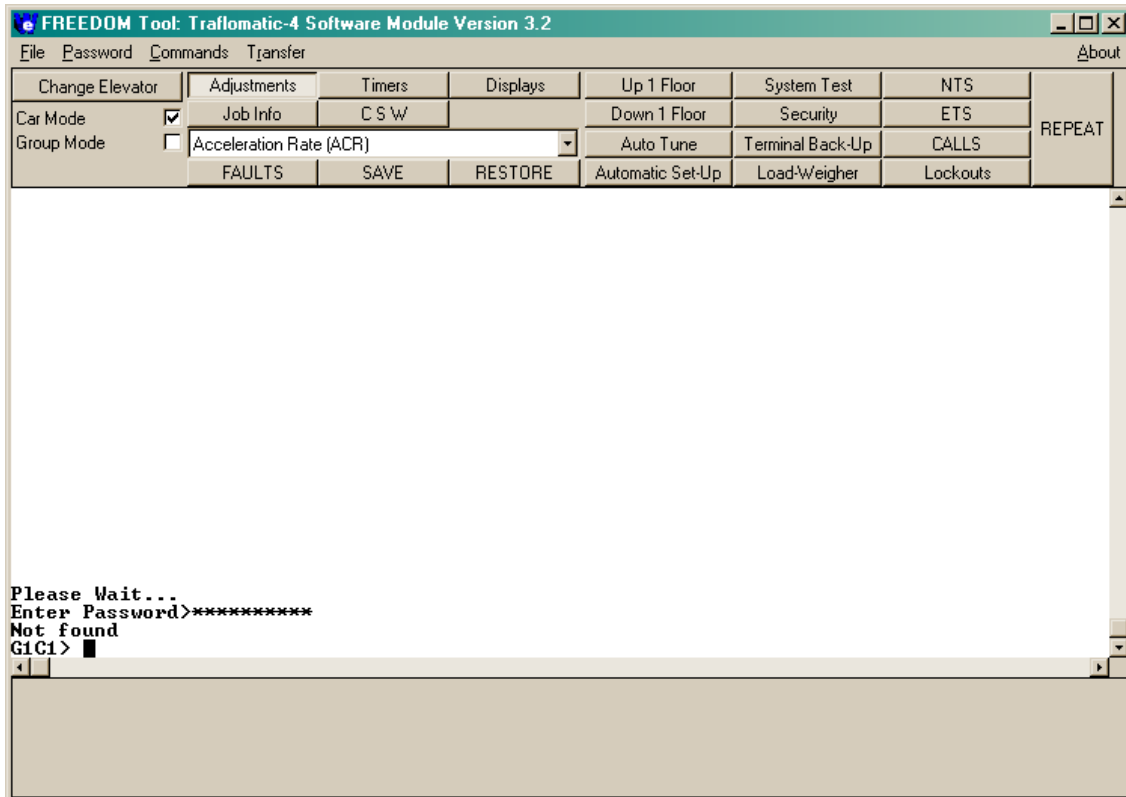

Figure 48
**Definition Bar:** Located on the **Main Window** are three functional areas that change depending on what mode of the tool the user is in. The first of these areas is located at the very bottom of the **Main Window**. This area is called the **Definition Bar**. Figure 48 shows the **Definition Bar** for the **Transfer** mode of the FREEDOM Tool. The **Definition Bar** aids the user by giving more specific information and possibly additional options for the selected feature.